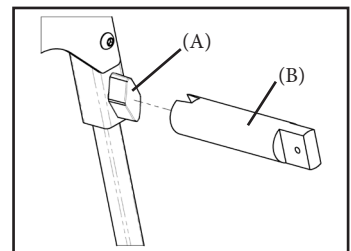

Fig. 11.2
NOTE: If you have difficulty reaching or tightening a locking knob (A) for adjustment, use the tightening tool (B) provided for this purpose (Fig. 11.2).